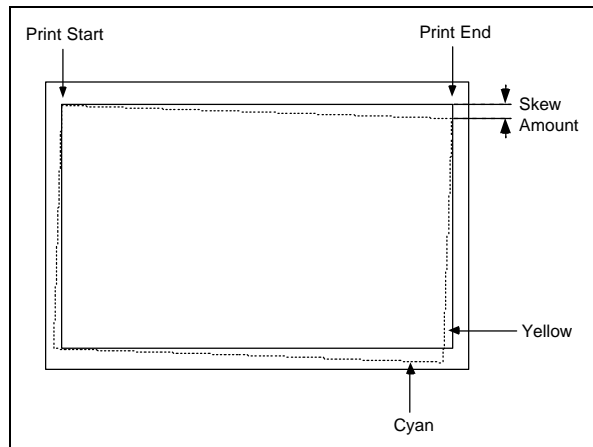
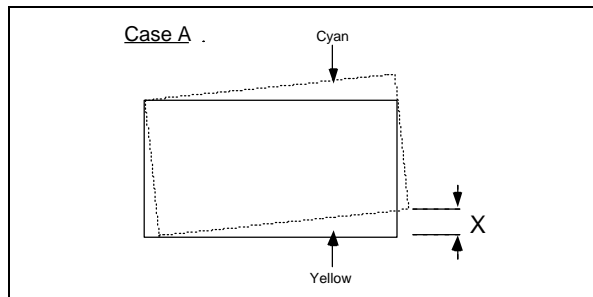
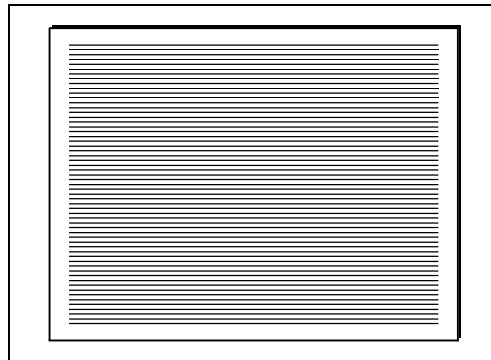

Figure 4-47. Thermal Printer Skew
Figure 4-48. Case A Skew
Figure 4-50. TX-1500 Test Print
Print skew appears in the form of yellow and/or cyan color areas near any black characters or lines as shown in Figure 4-47. There are typically two types of skewing, called "A" and "B" for reference (Figures 4-48 and 4-49).
3. Press the Print key on the printer to make a test print (Figure 4-50) and measure skew values X and Y (Figures 4-48 and 4-49).
6. For Case A (Figure 4-48):